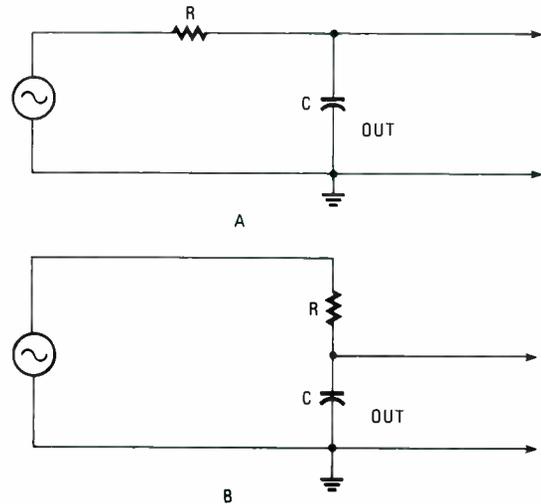

Fig. 15—The simple RC high-pass filter shown in A is simply the series voltage divider shown in B.
37. (12, octave) As shown in Fig 15, you can also make a high-pass filter (HPF) with a simple RC network. The output is taken from across the resistor, but the voltage-divider effect
38. (below) Figure 16A shows the ideal response curve of a HPF. Figure 16B shows the real response of the single RC HPF in Fig. 15. At high frequencies,  $X_C$  is very low so less voltage is dropped across the capacitor; thus, more voltage appears across the output. As the input frequency decreases,  $X_C$  goes up: More voltage is dropped across the capacitor and less appears across the output resistor. The circuit passes high frequencies and attenuates the lower frequencies.